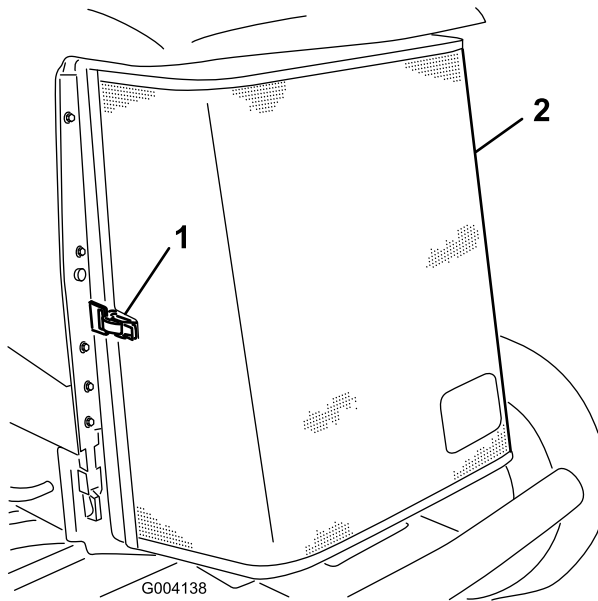

Figure 57
3. Unlatch the clamp and pivot open the rear screen (Figure 57).